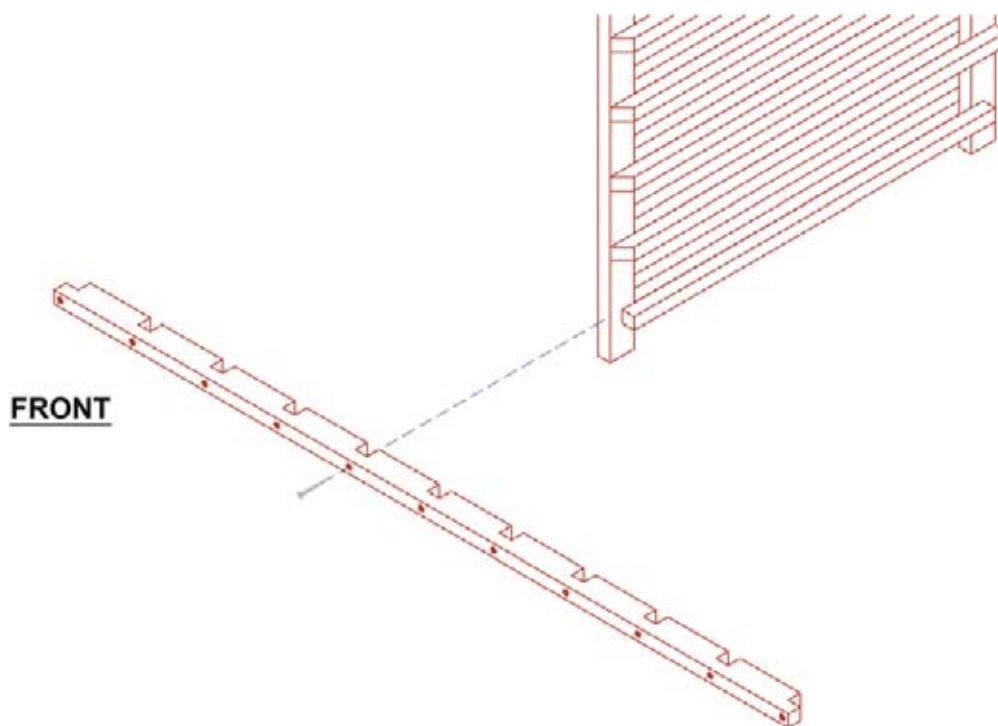

Figure 1
2. Set your double-sided ladder with the back on the floor (angled slats facing up) and fit your spacer bar on the front upright of your ladder by placing the dados (or grooves) of the spacer bar onto the upright (**Figure 1**). It may be necessary to tap the spacer bar lightly with a soft-faced hammer to fit, taking care to align the spacer bar vertically with the spacer slat behind it.